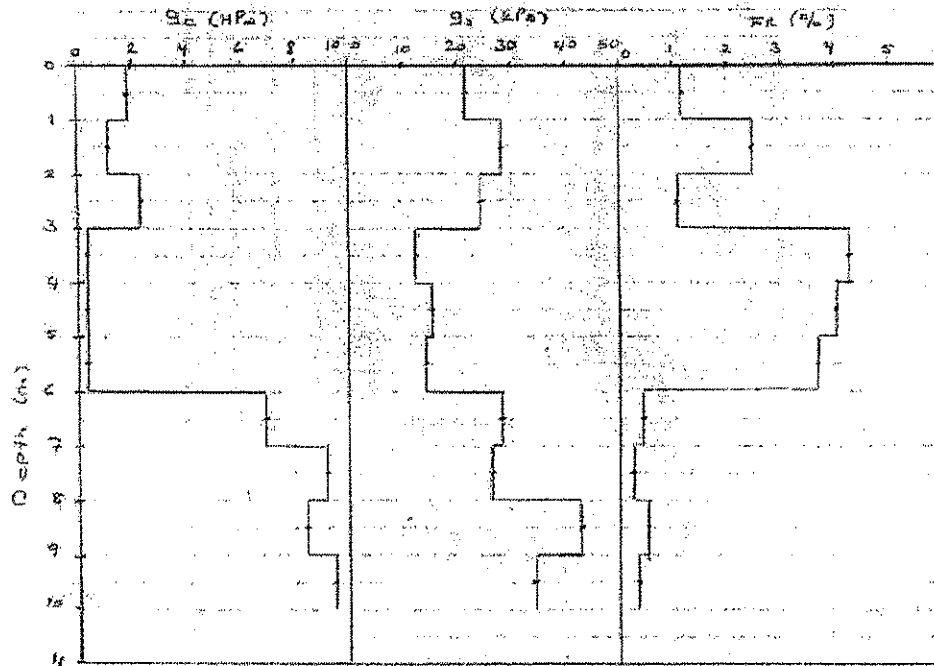

Figure 2. Plot of CPT data
- Plot of the Cone Penetration Test data (CPT) is shown in Figure 2.